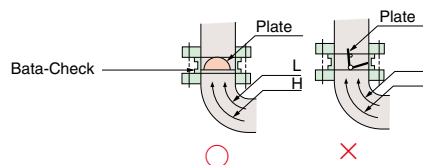

Fig.6
- When installing a Bata-Check valve near an elbow, have as large a space as possible between the elbow and the Bata-Check valve. Also, make sure that both plates are stressed evenly by the flow. (Fig. 6)